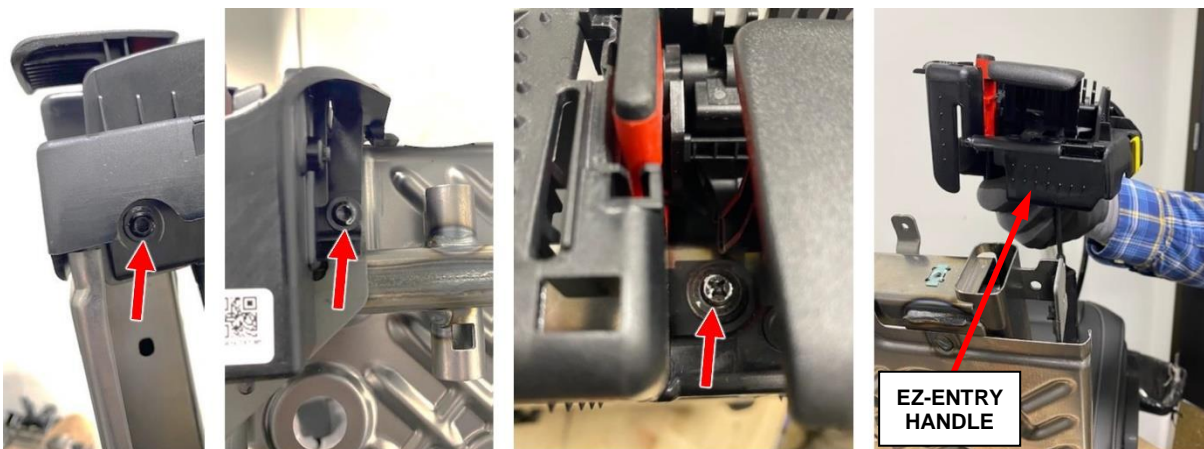

Figure 87 – EZ-Entry Handle
33. Remove the three screws that secure the EZ-Entry handle to the seat back frame (Figure 87).
34. Remove the EZ-Entry handle from the seat back frame (Figure 87).
45. Position the EZ-Entry handle to the seat back frame then install and tighten the three screws that secure the EZ-Entry handle to the seat back frame (Figure 87).